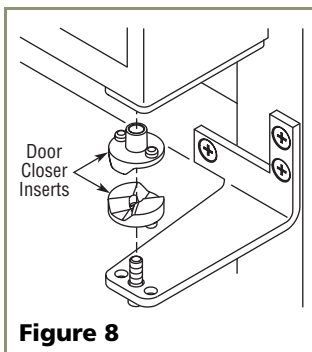

Figure 8
4. Remove the two door closer inserts from the existing bottom hinge and install as shown on the new bottom hinge (see **Figure 8**).